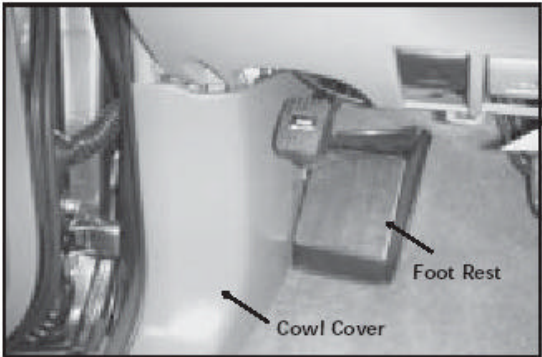

figure 4
- 2.3 Remove driver's side cowl cover. (figure 4).